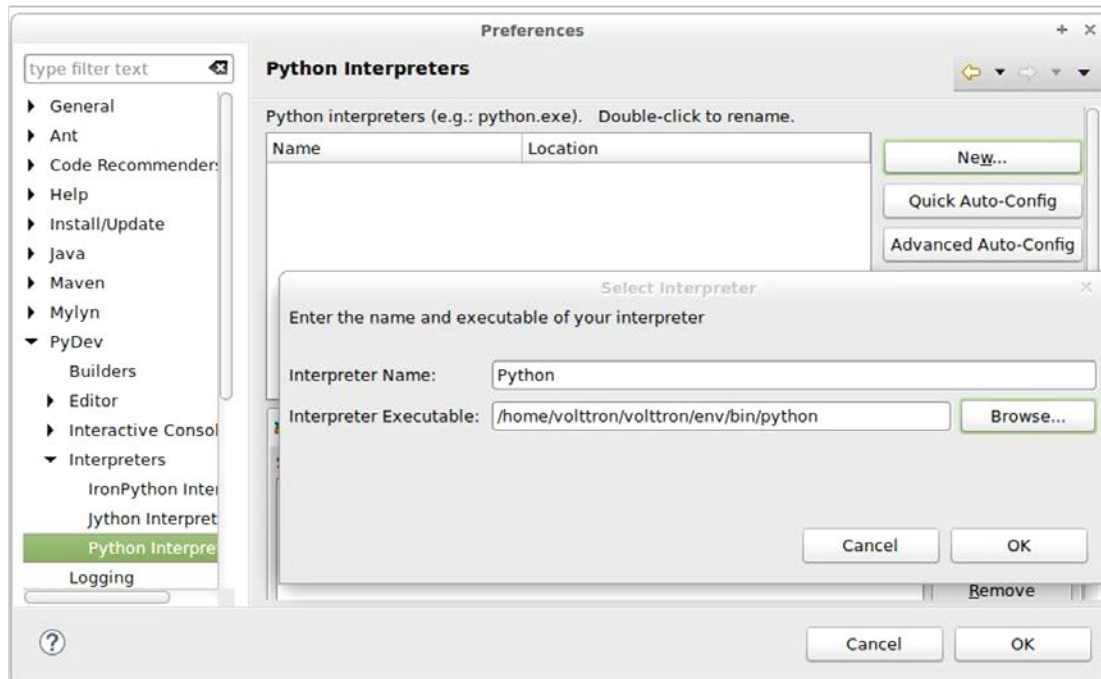

Figure 68: Configuring PyDev
- Use Python as the Interpreter Name, and hit Browse. In the bin directory for the VOLTTRON project, select the file named Python, Then hit OK (Figure 68)